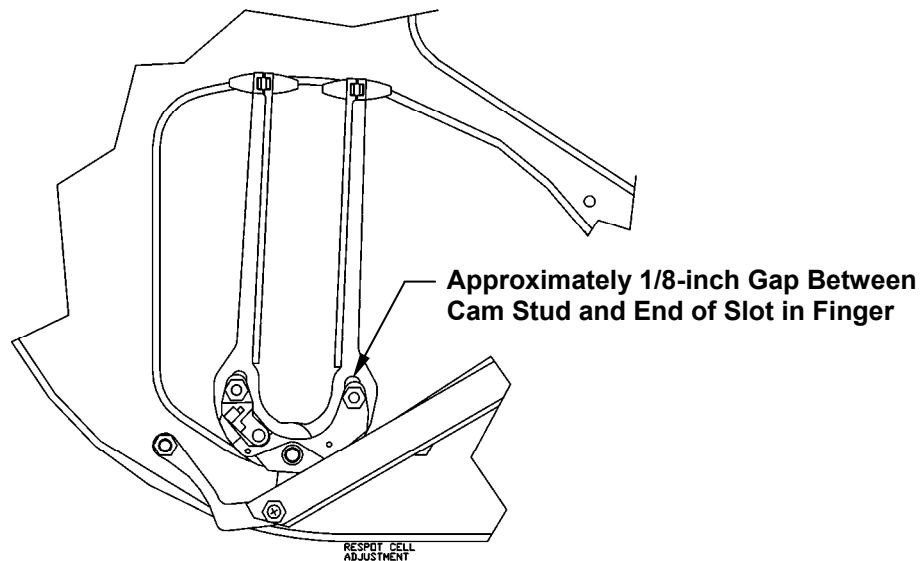

**Figure 4.2-21**
12. Move the spotting lever to the spotting position, which is done by placing the spotting lever in a "fingers open" position (see Figure 4.2-21).
14. With the spotting lever in the fingers open position, adjust the length of the short rod (Figure 4.2-20) so that the cam link (Figure 4.2-21) just makes contact with the cam follower. **THE CAM FOLLOWER MUST STILL BE ABLE TO TURN FREELY.** Tighten the jam nuts on the short rod.